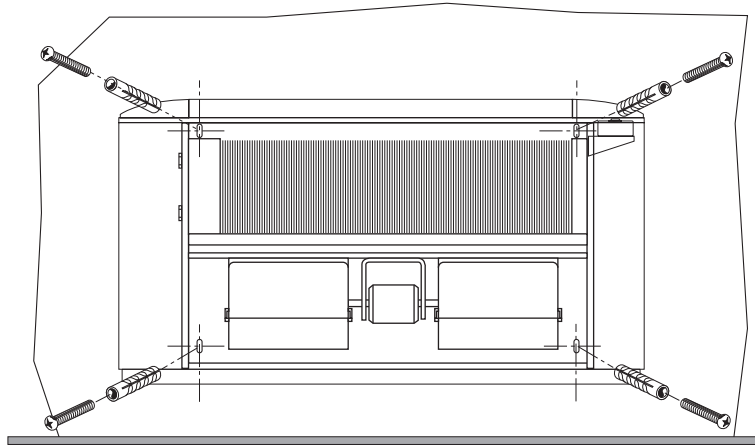

Fig. 5
- Use expansion plugs (not supplied) to secure the unit to the wall as indicated in Fig. 5.